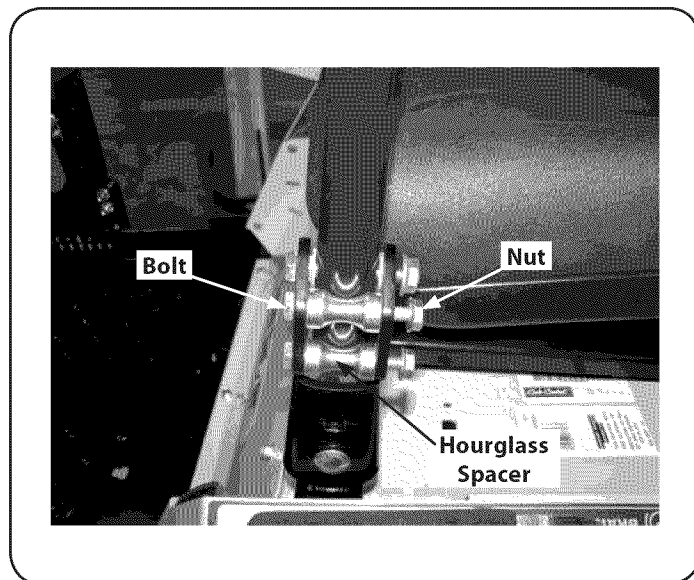

Figure 6
2. From the outside, insert the bolts through the hourglass spacers and the holes of the pivot bracket. Secure with the flange lock nuts. See Figure 6.